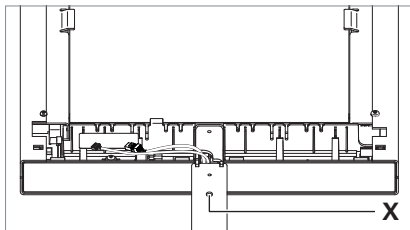

Fig. 11: Adjusting the inclination.
- ▶ Lift the luminaire head to align it vertically and tighten the adjusting screw **X** against the support tube counterclockwise by hand, see Fig. 11.